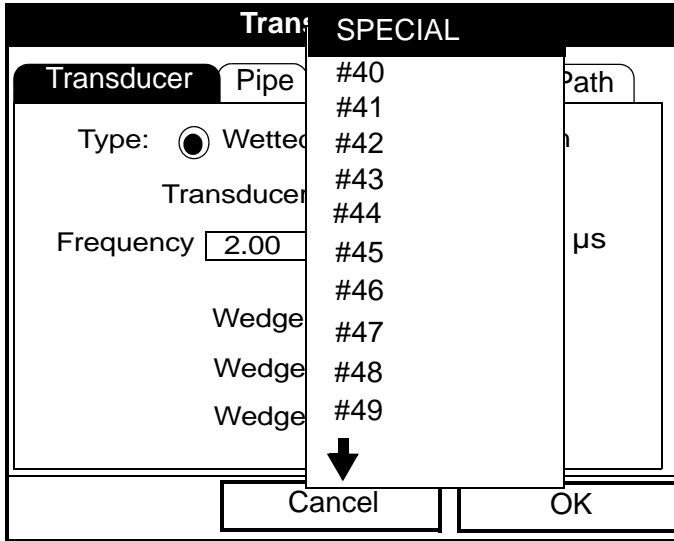

Figure 11: Transducer Numbers Drop-Down List
- b. A drop-down list of transducer numbers opens as in Figure 11 on page 25. (The list varies, depending on whether you have selected wetted or clamp-on in the previous prompt. See Table 4 on page 25.) Press the [▼] or [▲] keys to scroll to the appropriate number, or scroll to “Special” for a special application transducer. To speed scrolling, you can press the [▶] key to scroll down by a page, or the [◀] key to scroll up by a page.